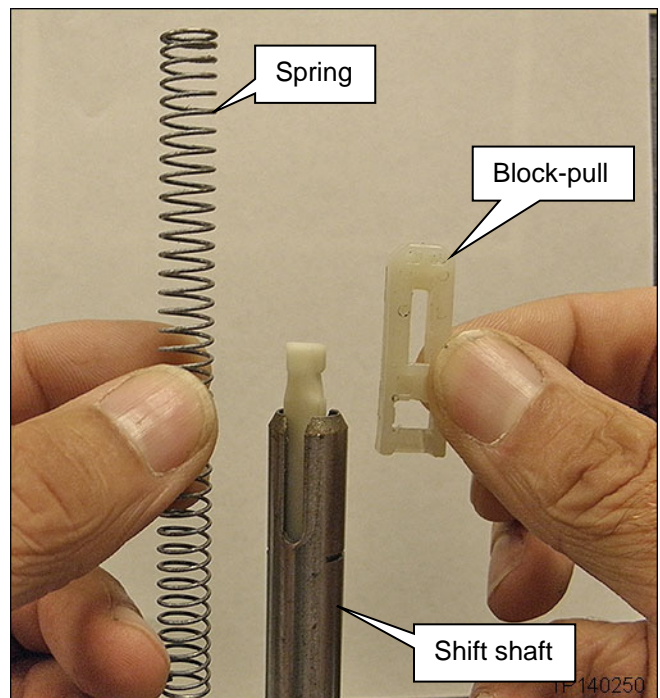

Figure 5
If for any reason the block-pull and spring are removed as shown in Figure 5:
- Figure 5 shows the block-pull and spring removed.